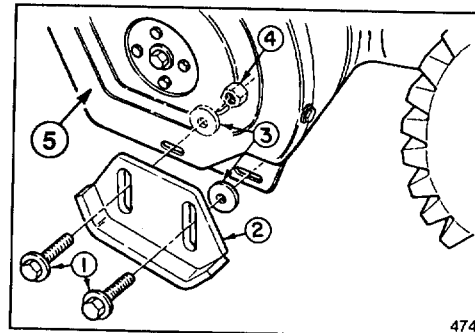

Figure 8
3. Remove (2) flange bolts and washers securing ends of scraper to side plates (Fig. 8). Reinstall bolts through rear slots in skids. Assemble both skids so that washers are between skids and sideplates (Fig. 8). Do not tighten bolts.